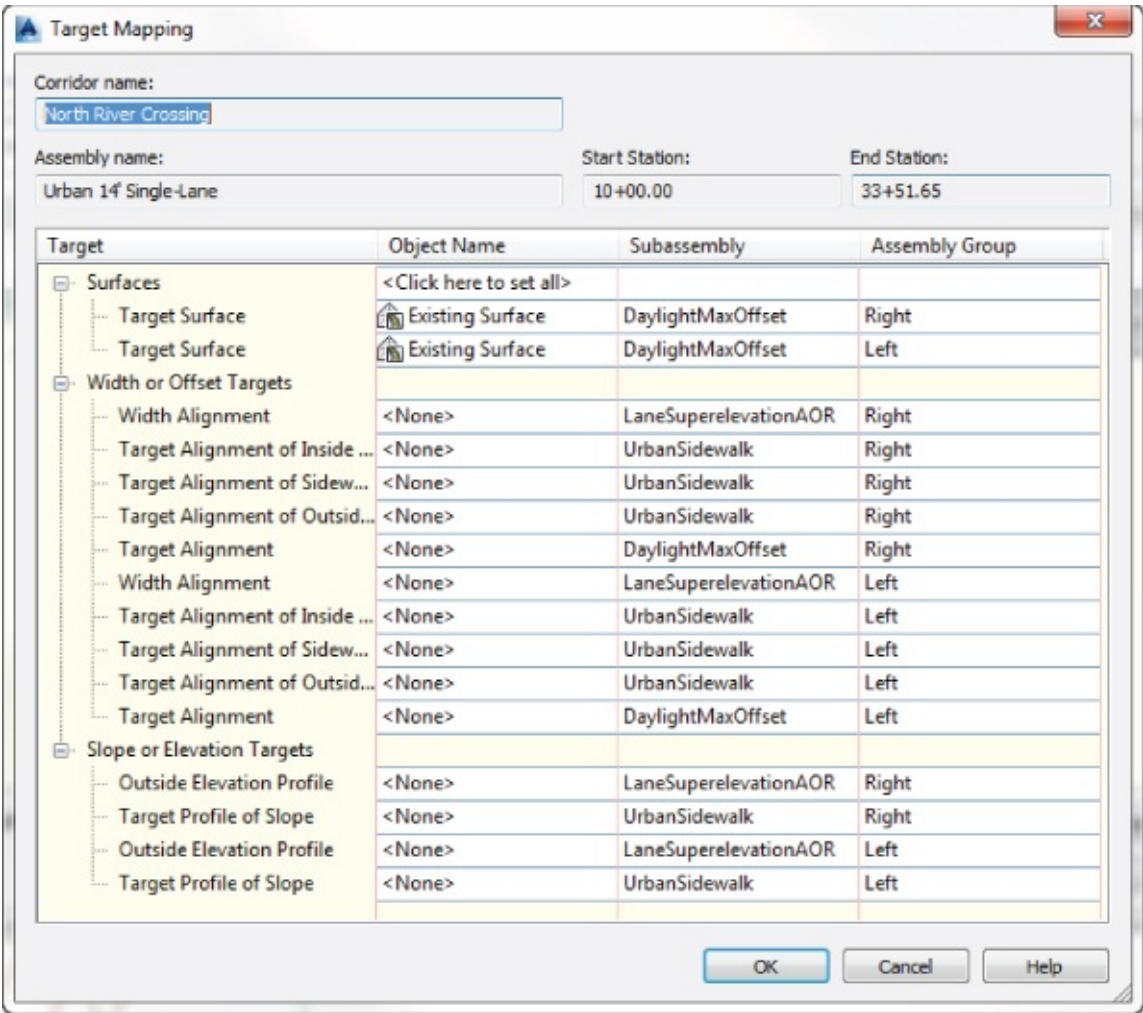

Figure 9.9 The Target Mapping dialog
13. Examine the settings in the Target Mapping dialog, as shown in Figure 9.9.